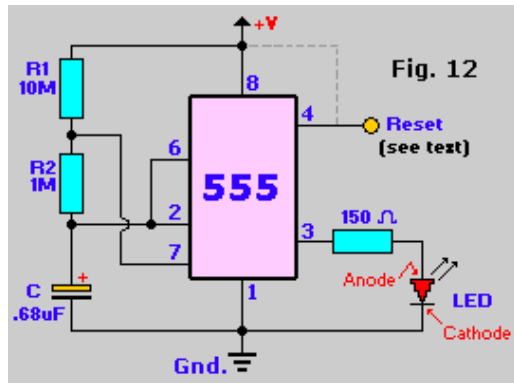
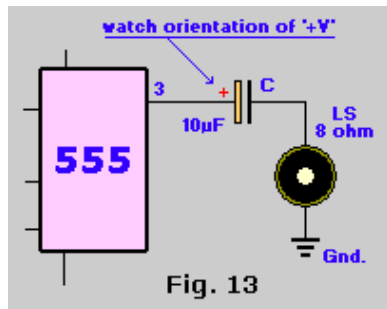

Fig. 12
Fig. 13
it appears as shown in Fig. 12.
Use the same circuit in Fig. 12. But, replace the LED and its resistor with a speaker and capacitor as shown in Fig. 13.
**Fig. 12, Recording Beep:** This circuit is used to keep recording of telephone conversations legal. As you may know, doing otherwise without consent of the other party is illegal. The output of IC1 is fed to the 2nd 555's pin 3 and made audible via C2 and the speaker. Any 8-ohm speaker will do.
**Fig. 13, Coin Toss:** Electronic 'Heads-or-tails' coin toss circuit. Basically a **Yes** or **No** decision maker when you can't make up your mind yourself. The 555 is wired as a Astable Oscillator, driving in turn, via pin 3, the **7473** flip-flop. When you press S1 it randomly selects the 'Heads' or 'Tails' led. The leds flashrate is about 2Khz (kilo-Hertz), which is much faster than your eyes can follow, so initially it appears that both leds are 'ON'. As soon as the switch is released only one led will be lit.